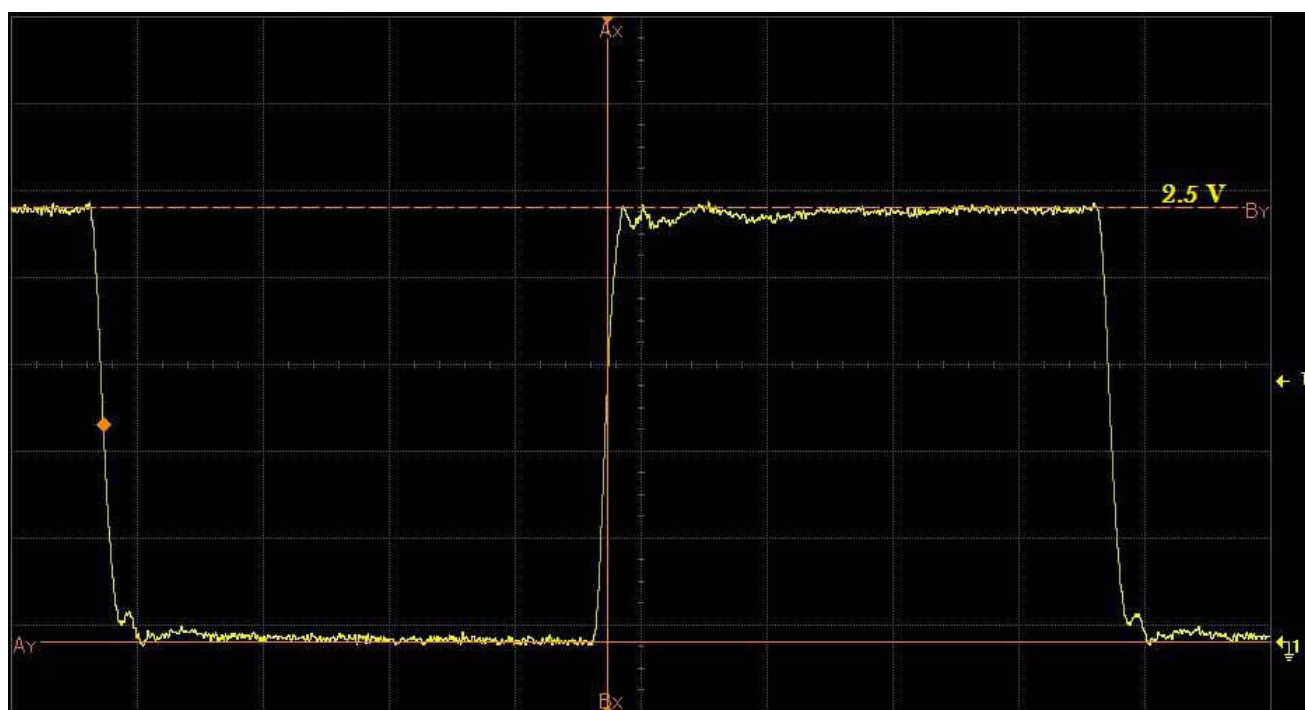

Figure 2. Rev A Device (75 Ω Driver) into 80 Ω Trace
- Figure 2—Rev A device (2.5 V, 75 Ω driver) driving an 80 Ω trace.